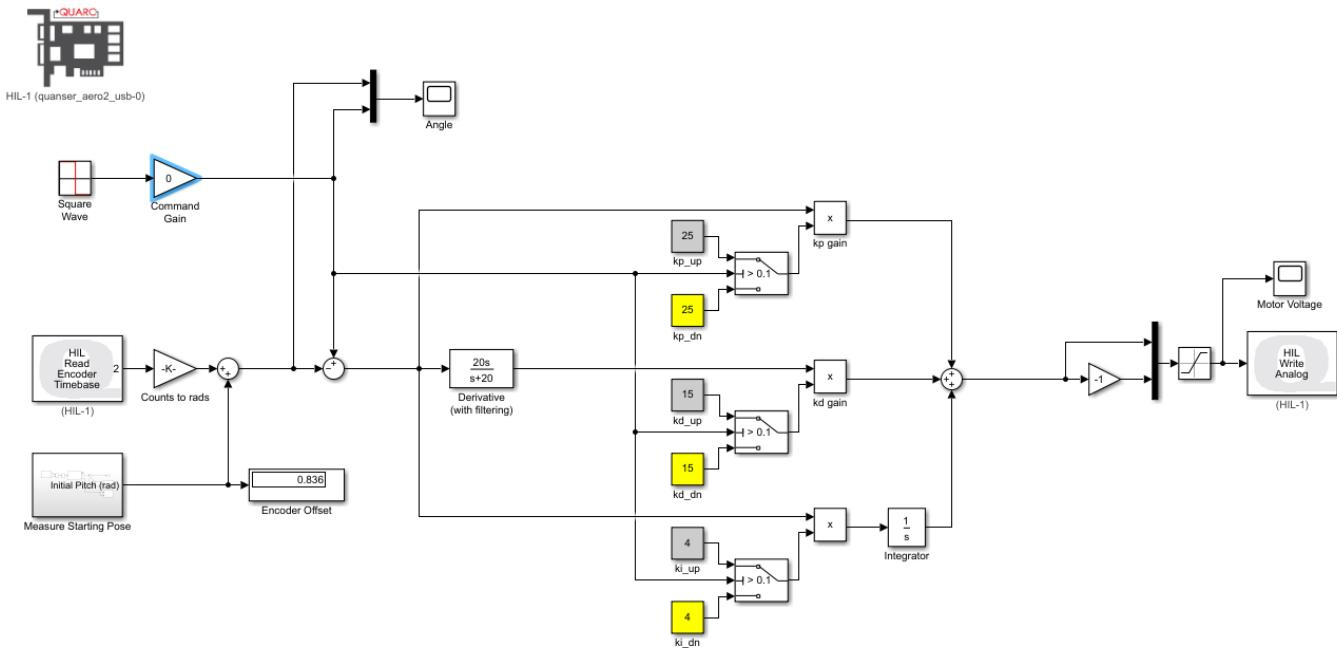

Figure 1: Simulink model that commands a square wave and allows for different control gains based on the setpoint.
1. Open the Simulink model q_aero_gain_scheduling.mdl (Figure 1). This model contains a PID controller which commands the Aero 2 to cycle between 0 and -0.5 radians of pitch. The PID controller was tuned for a 1.8 second peak time, 25% overshoot, and 0.05 radians of steady state error.
5. Adjust the "down" control gains (highlighted in yellow in Figure 1) for the negative setpoint such that the overshoot and steady-state error is within the design specifications on both the rising and falling steps. Record the gains which produce the required result.